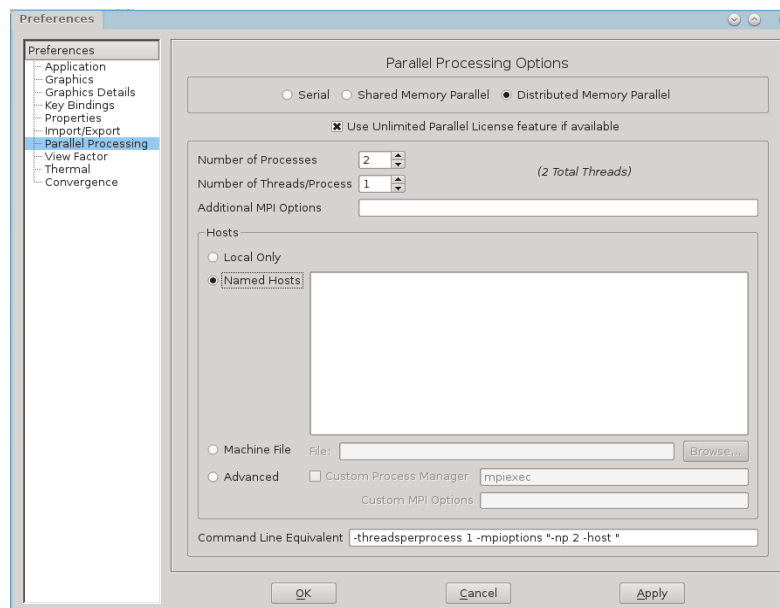

Figure 8: Parallel processing setting in TAItherm GUI v12.0.
- **Edit**→**Preferences**→**Parallel Processing** Figure 8.